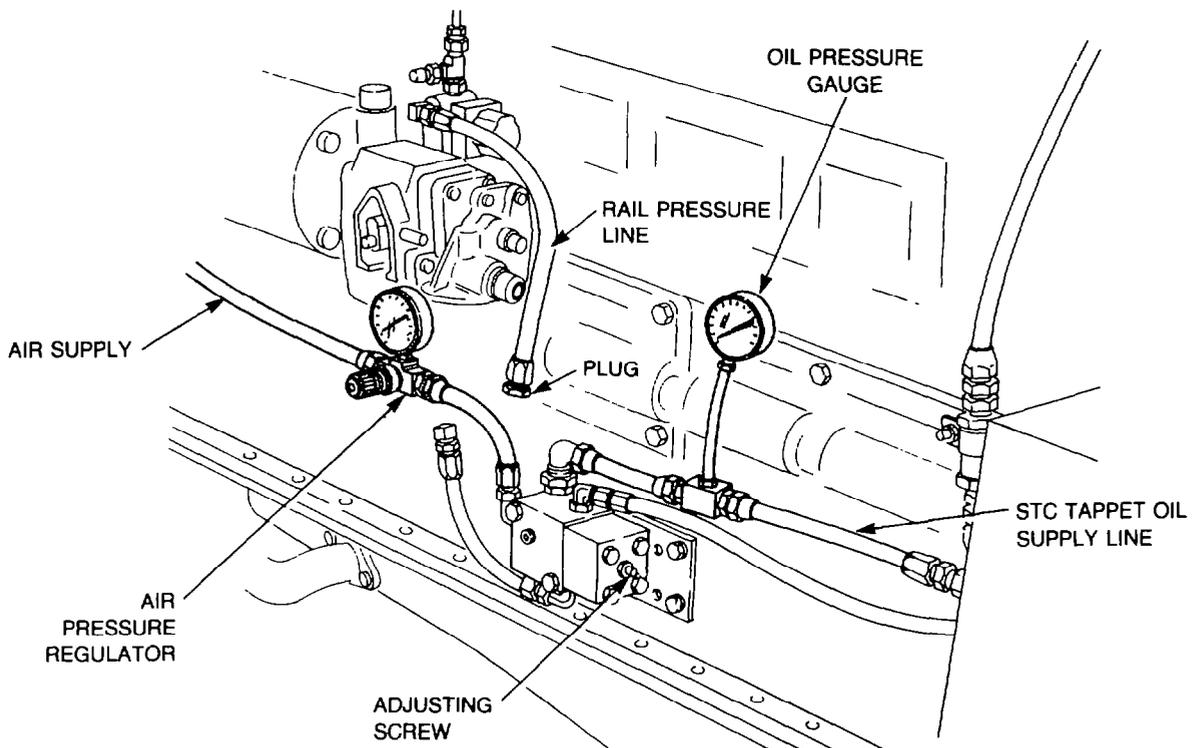

Figure 136 — STC Control Valve — Test Equipment
- a. Disconnect the rail pressure line from the union in the STC control valve and install a plug in the line (see Fig. 136).